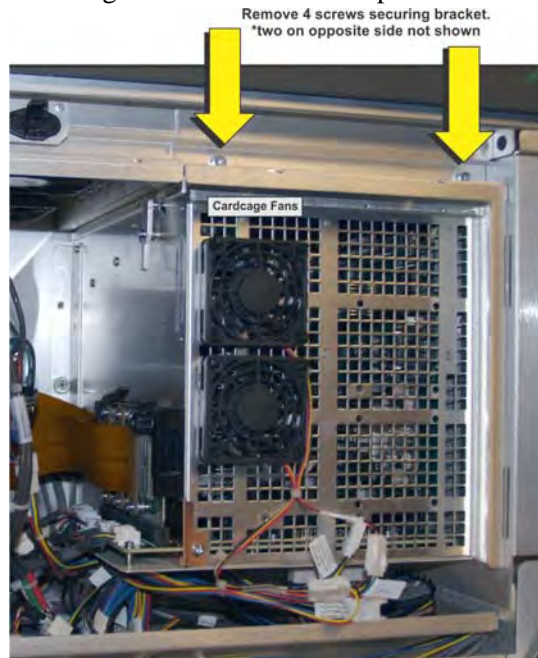

Figure 5-34 Top of Cardcage
7. Remove the four screws securing the hex driver holder plate above the cardcage assembly. **(Figure 5-34)**
8. Disconnect the harnesses from the cardcage fans. **(Figure 5-34)**